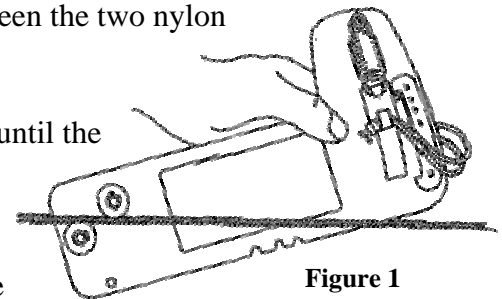

Figure 1
1. Hold the gauge with the left hand and place the cable between the two nylon spools as shown in **Figure 1**.